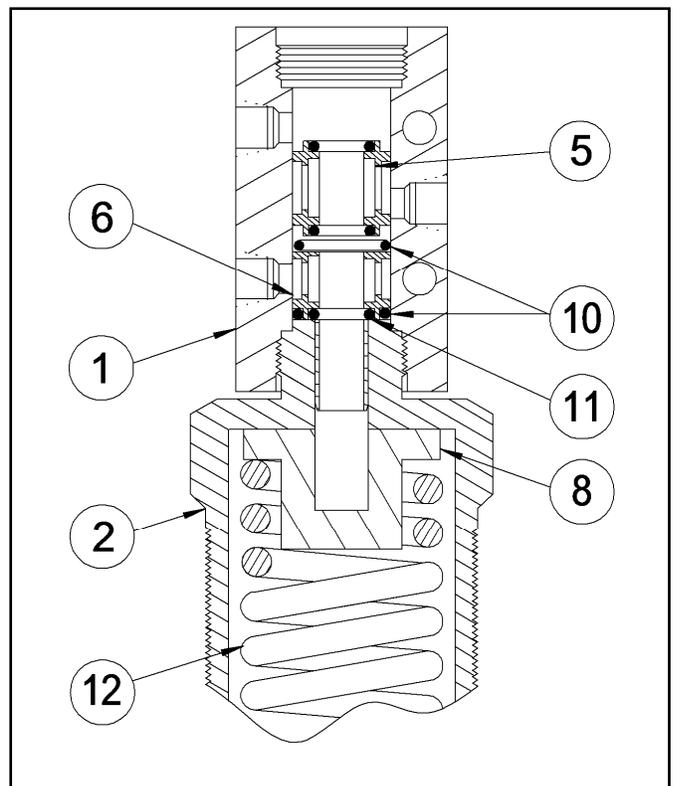

Figure 4: Placing Center Sleeve
8. Turn the valve body (item 1) so that the open end of the bore is up. Install new inner o-rings (item 11), without lube, in the center sleeve (item 5). Place new lubricated o-ring (item 10) in the bore of the body (item 1) on top of the end sleeve (item 6). (See Figure 4)